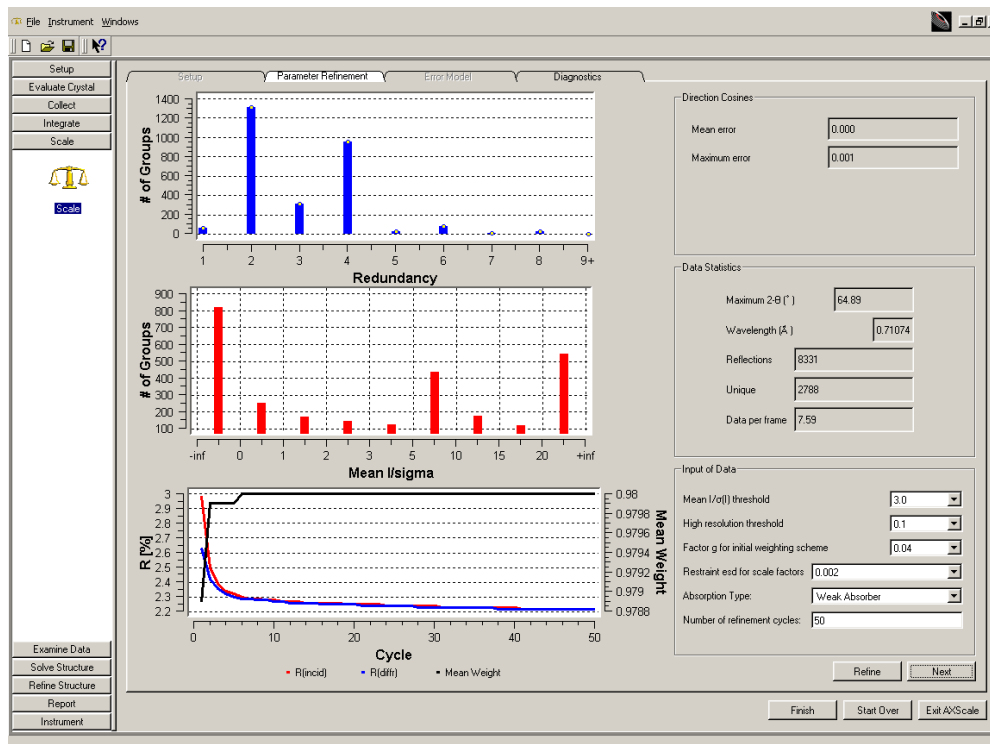

Figure 7.25 - Xscale window after refinement
1. Click on Refine. Figure 7.25 shows a typical refinement result. The R-values are reduced and the Mean weight increases. Typical final values are 3–4% for the R-values and 0.95–0.98 for the Mean Weight.